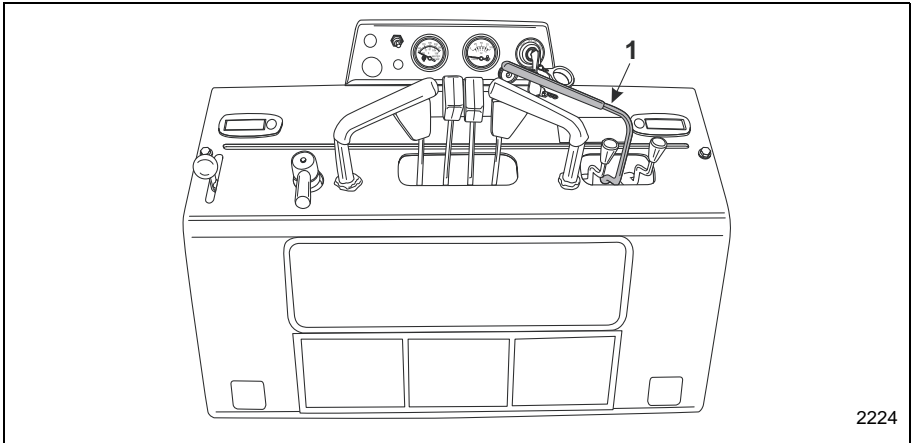

Figure 12 Auxiliary Control
1. With the attachment raised off the ground, move the AUXILIARY/OPERATOR PRESENCE control lever (Items 1, **Figure 12**) to either the FORWARD or REVERSE position to activate the trencher.n..